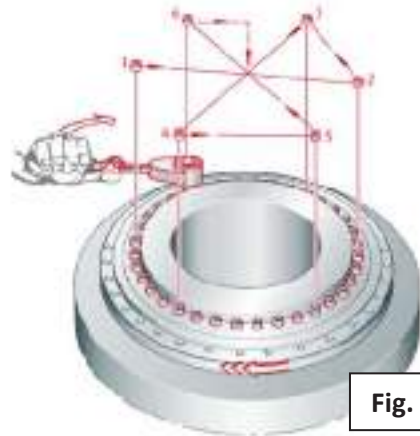

Fig. 1
4. Check the torques of the slewing bearing starting from a screw and proceed as shown in Figure 1 until the operation is complete.